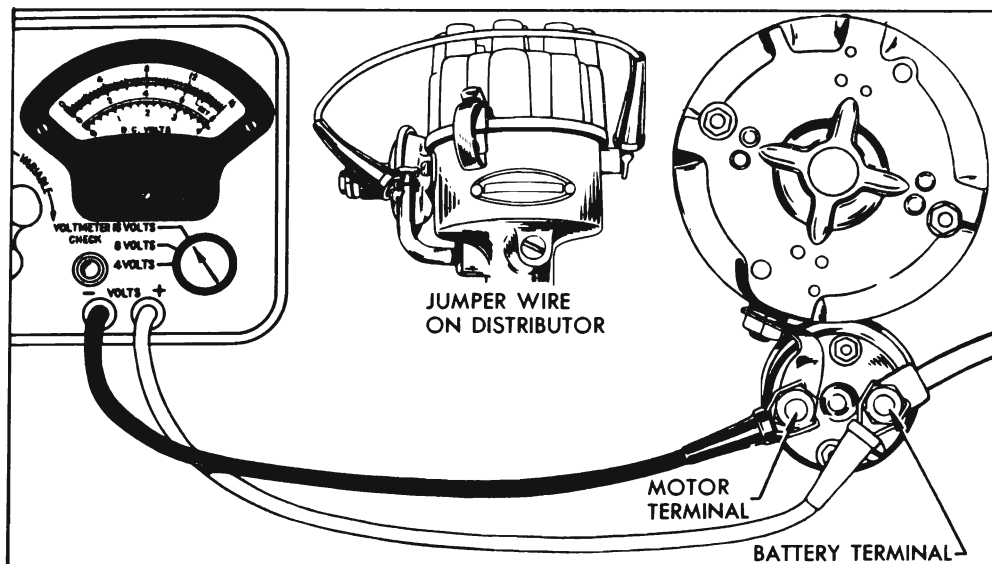

Figure 10-39—Solenoid Switch Contact Test Connections
6. With voltmeter switch turned to any scale above 12 volts, connect voltmeter negative (–) lead to the motor terminal of solenoid switch, and connect positive (+) lead to battery terminal of switch. See figure 10-39.